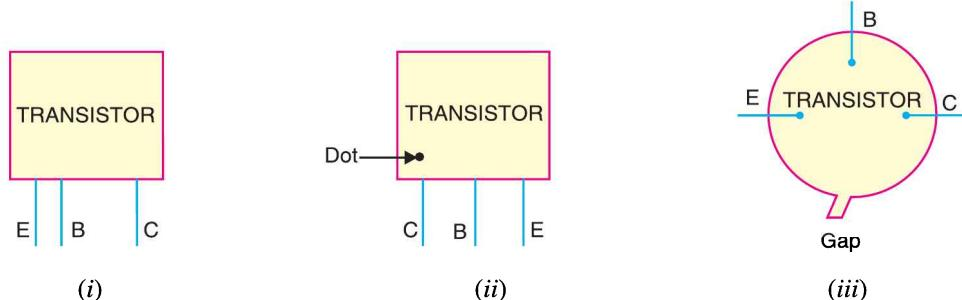

Fig. 8.64
There are three leads in a transistor viz. collector, emitter and base. When a transistor is to be connected in a circuit, it is necessary to know which terminal is which. The identification of the leads of transistor varies with manufacturer. However, there are three systems in general use as shown in Fig. 8.64.
(i) When the leads of a transistor are in the same plane and unevenly spaced [See Fig. 8.64 (i)], they are identified by the positions and spacings of leads. The central lead is the base lead. The collector lead is identified by the larger spacing existing between it and the base lead. The remaining lead is the emitter.
- (ii) When the leads of a transistor are in the same plane but evenly spaced [See Fig. 8.64 (ii)], the central lead is the base, the lead identified by dot is the collector and the remaining lead is the emitter.
- (iii) When the leads of a transistor are spaced around the circumference of a circle [See Fig. 8.64 (iii)], the three leads are generally in E-B-C order clockwise from a gap.